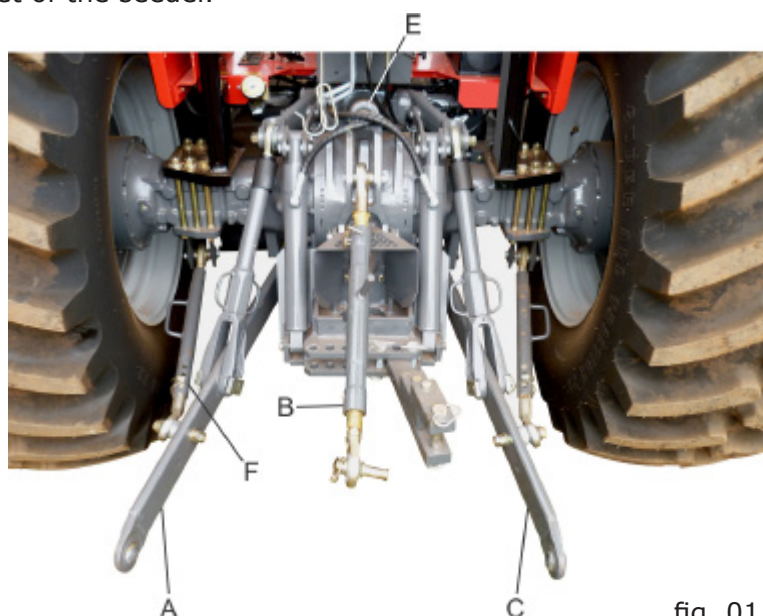

fig. 01
- 3- Make the coupling of the left lower arm (A) (fig. 01) (not adjustable) placing the pin with safety lock.
- 4- Place the 3rd point (B) with the pin and the safety lock.
- 5- Make the coupling of the right lower arm (C) (adjustable).
- 6- After making coupling the seeder, center it in relation to the half the tractor using the stabilizers (F) for the alignment of lower arms, checking their distance in relation to the tractor wheeled.
Check the position the hitch of the 3rd point (B) (fig. 01) in the tractor so that the relief valve (E) does not be driven. Do the attachment of the 3rd point (B) in the opposite position to the relief valve (E) always; so that does not occur worn on the tractor's hydraulic system out.